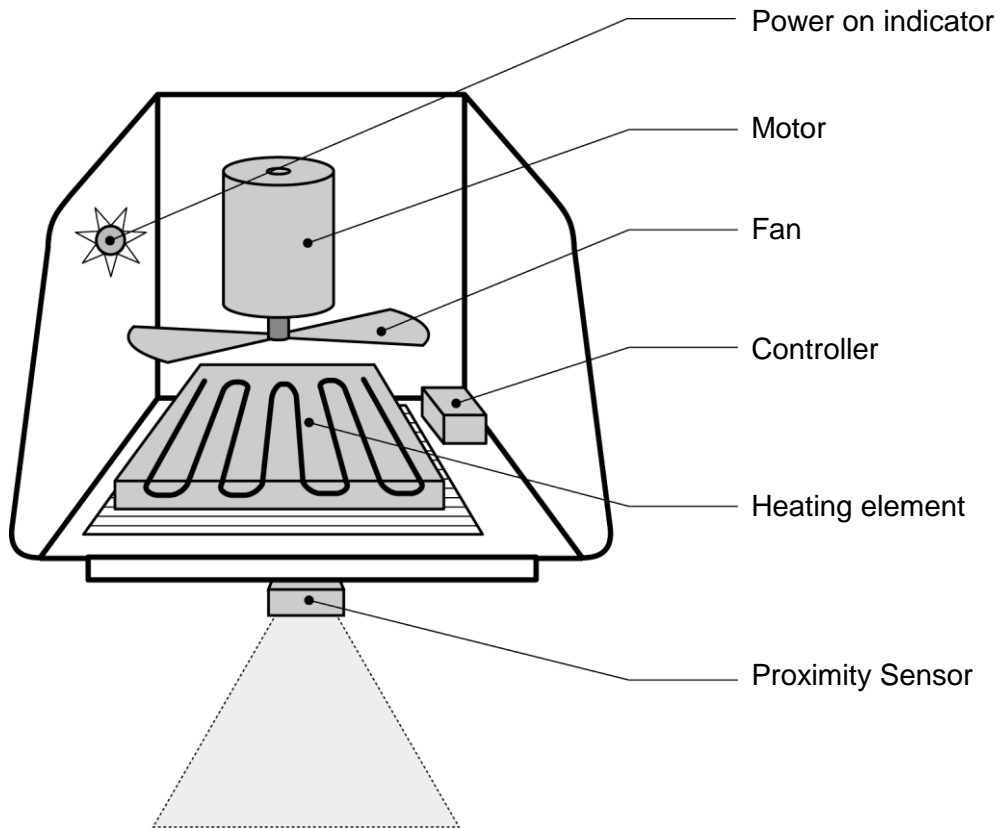

Figure Q9
9. An automated hand dryer, shown in Figure Q9, consists of a controller, a proximity sensor, a heating element, a power on indicator and a motorised fan. The system is designed to blow warm air for 1 minute after the sensor is activated and then stop automatically. The heating element is interlocked to the motorised fan and cannot operate until the fan is running. The heating element is switched off 5 seconds before the fan is stopped.